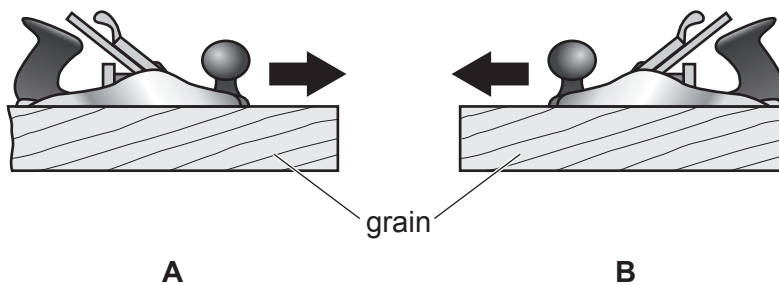

Fig. 2.1
- 2 Fig. 2.1 shows a length of wood being planed in two directions, **A** and **B**.
- (a) State the name of the plane shown in Fig. 2.1.